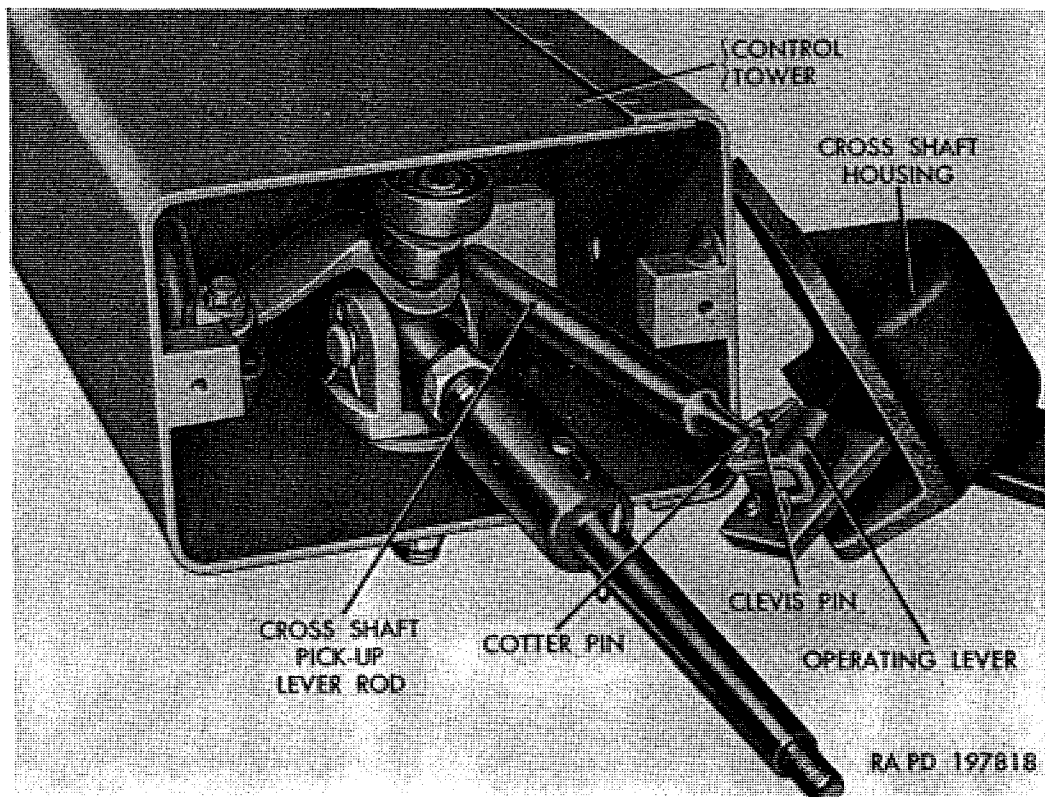

Figure 202. Removing cross shaft housing.
- (5) Remove bushing-type bearing (YY) from reduction unit idler lever (XX) only if inspection shows necessity for replacement.
- (6) Remove cotter pin from control tower support (AL) only if new pin is to be installed.
- (7) Slide control-tower-to-cab-floor seal off control tower.
- (8) Remove adjusting nuts (AD and AB) and shift lever trunion (AC) from selector-lever-to-transmission-shift-lever rod (AE).
- (9) Unscrew transmission shift control lever knob (A) from gearshift hand control lever (F).
- (10) Remove two screws (B and C) and lockwashers (D); then remove control tower cap (E) from control tower (SS).
- (11) Remove bolt (CC), nut (LL), spacer (FF), two bolts (NN), and two nuts (MM) attaching cross shaft housing (BB) to control tower (SS).
- (12) Unhook pull-back spring (HH) from operating-lever-to-cross-shaft-pick-up-lever rod assembly (PP); then unhook spring from bracket inside control tower (SS). Remove spring (HH) from control tower.
- (13) Pull cross shaft housing (BB) away from control tower (SS) as shown in figure 202; then remove cotter pin and clevis pin (AA) attaching cross shaft housing (BB) and